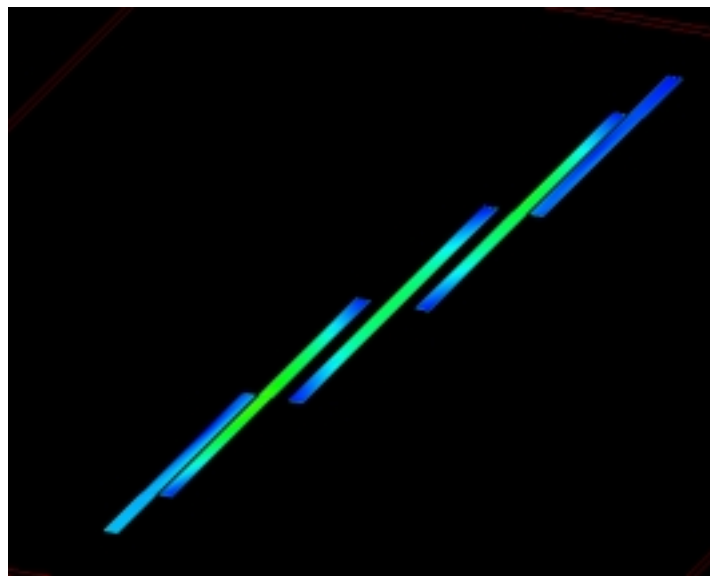

Figure 15. Representative plot of the electric current density at  $f_c$ .
- c) Now select Current>Plot Currents and use the “shaded” option. You should obtain a plot similar to that shown in Figure 15.